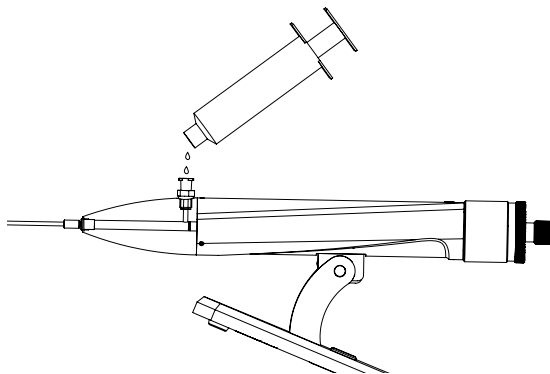
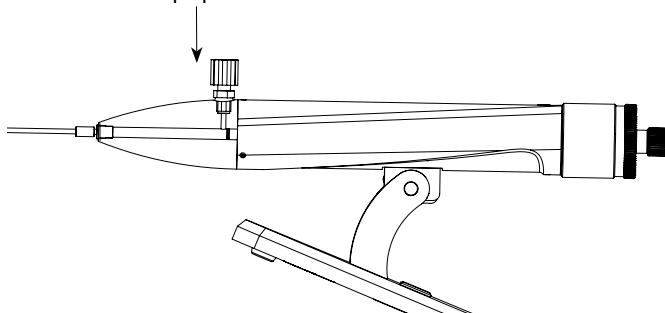

Figure 9-11
Figure 9-12
9. Now press the syringe plunger slowly to fill the cylinder and the tubing. Next fill the port and replace the cap (see Figure 9-11 and Figure 9-12 on page 50).